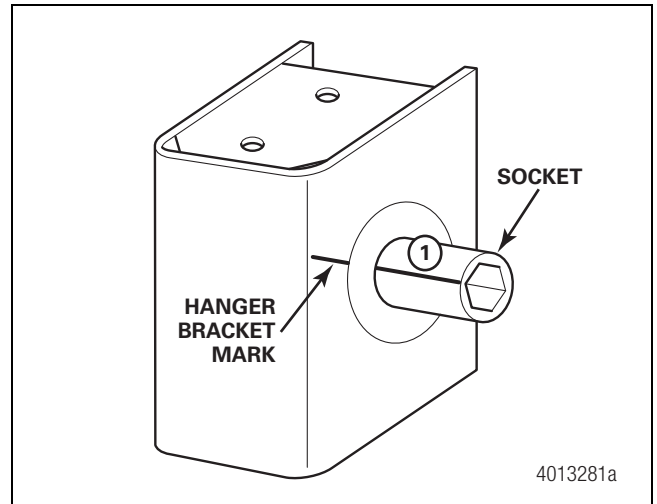

Figure 10
- C. Place the socket over the locknut and place a mark on the hanger bracket (not the alignment washer) where it lines up with socket mark #1. Figure 10.